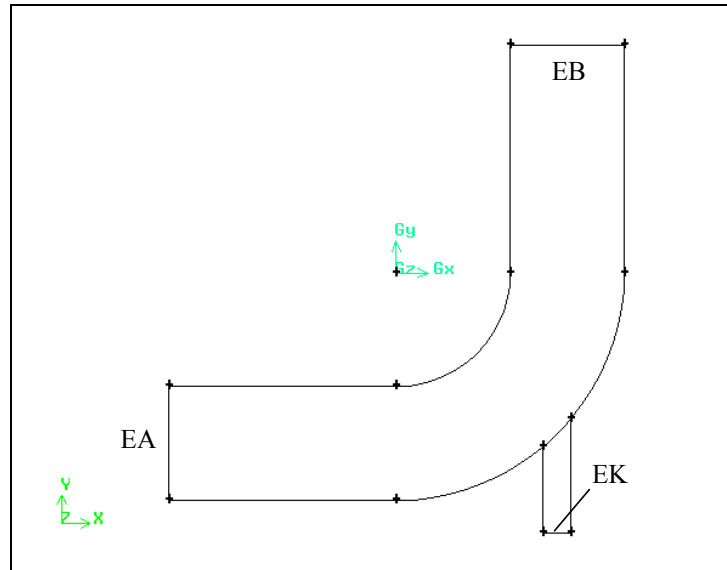

Figure 2-22: Boundary types for edges of mixing elbow
- iv. *Shift*-left-click the main inflow for the mixing elbow in the graphics window (marked EA in Figure 2-22) and click **Apply** to accept the selection.
- vi. Check that INFLOW is still selected in the **Type** option menu and select the edge marked EK in Figure 2-22 (the inlet for the small pipe). Click **Apply** to accept the selection of the edge.
- iii. Select the main outflow for the mixing elbow (the edge marked EB in Figure 2-22) and click **Apply** to accept the selection.